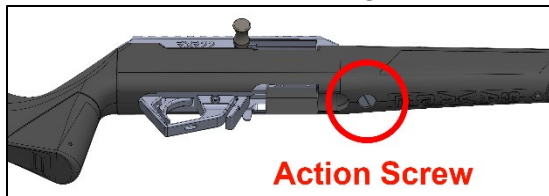

Figure 23
- Using an appropriately sized flat bladed screwdriver or a coin, rotate the action screw counterclockwise. Unthread it until the screw comes loose from the action – Figure 23.